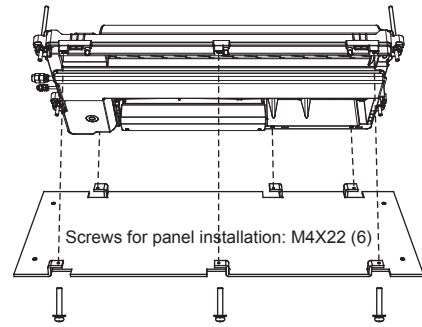

Figure 3.11
- 2.2) Affix the installation paper on the lower side of the indoor unit with the screws used to secure the plate (see Figure 3.11).